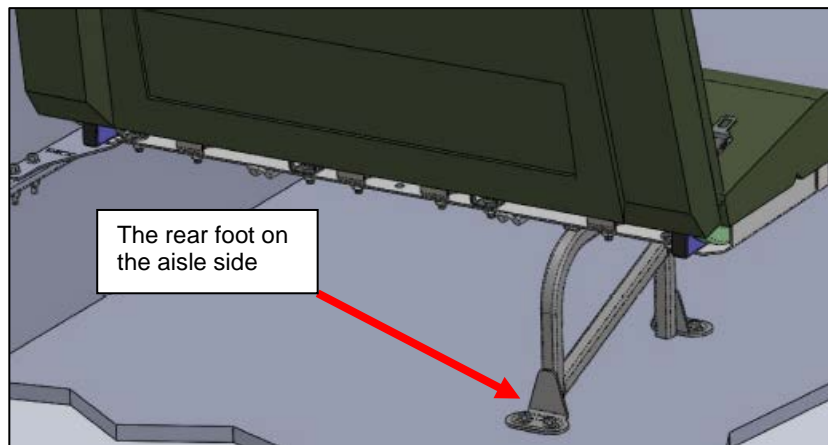

Figure 1: Location of the Affected Seat Foot
2. Locate the rear foot on the aisle side of each 45 inch S3B seat on the bus (there will be between 1 and 10 seats). See **Figure 1**.